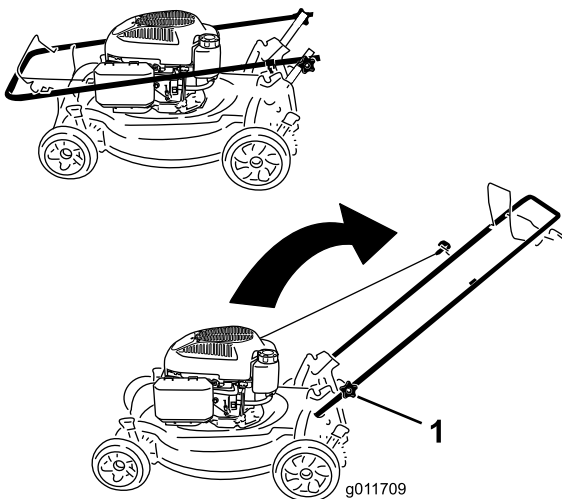

Figure 3
1. Loosen the handle knobs (Figure 3).
1. Handle knob (2)
3. Tighten the handle knobs firmly by hand (Figure 3).